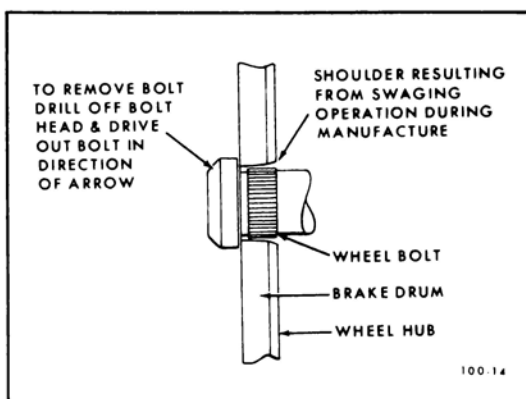

Figure 100-4—Front Wheel Bolt Pressed into Place in Hub and Drum Assembly
The wheel bolts are pressed into the front hub and drum assembly forming a shoulder on each bolt by a swaging operation. See Figure 100-4. To replace a wheel bolt, the original bolt should not be pressed out of the hub since the swaged shoulder will enlarge the wheel bolt opening. This will make it impossible to install a new wheel bolt tightly and will require brake drum replacement.
2. Secure hub and drum assembly in a vise and mark center of the bolt head with a center punch. Drill 1/8" pilot hole in head of bolt; re-drill head using a 9/16" bit. Cut off any remaining portion of bolt head using a chisel and then drive out bolt with drift. See Figure 100-4.